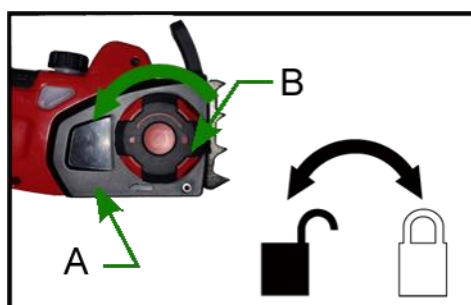

Fig. 4B
1. Loosen the side cover knob a few turns (Fig. 4B).